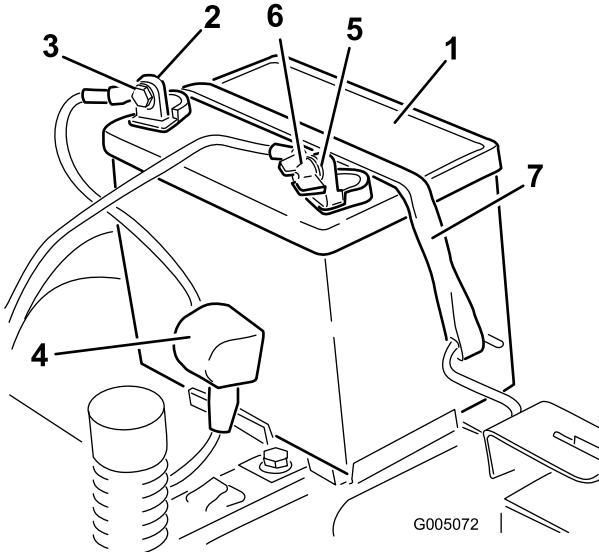

Figure 39
4. Disconnect the negative (black) ground cable from the battery post (Figure 39).
6. Disconnect the positive (red) cable from the battery post (Figure 39).
7. Remove the battery hold-down (Figure 39) and lift the battery from the battery tray.
1. Position the battery in the tray (Figure 39).
5. Secure the battery with the hold-down (Figure 39).